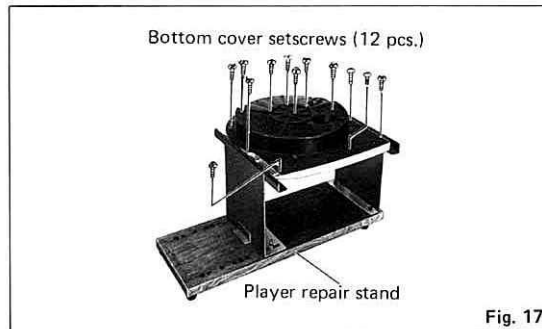

Fig. 17
2. Remove 12 setscrews of the bottom cover. (See Fig.17.)